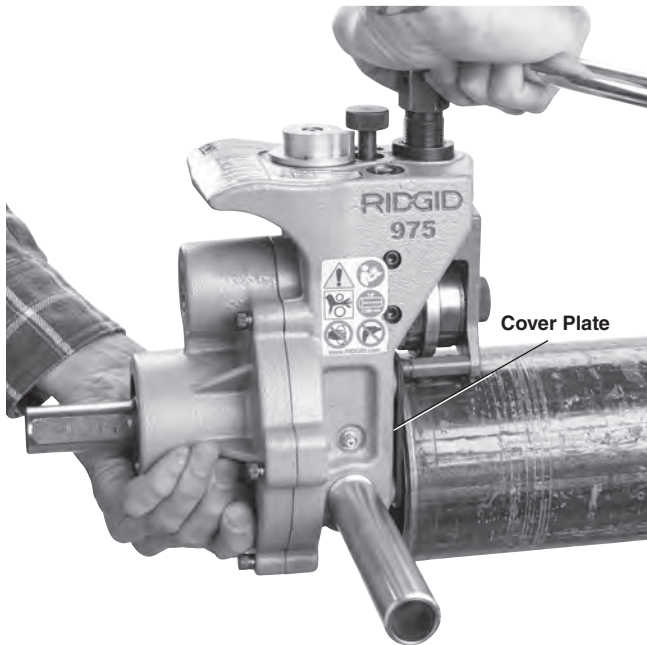

Figure 14 – Holding the Roll Groover In Place While Tightening the Feedscrew
3. Securely grasp the roll groover. Do not lift with the ratchet. Place the driveshaft into the pipe and make sure that the cover plate is tight to the end of the pipe (*Figure 14*). Tighten the feedscrew to bring the groove roll into secure contact with the pipe. *Follow steps 3 and 4 from "Setting/Measuring The Groove Diameter"*. Once the groove setting gauge is returned